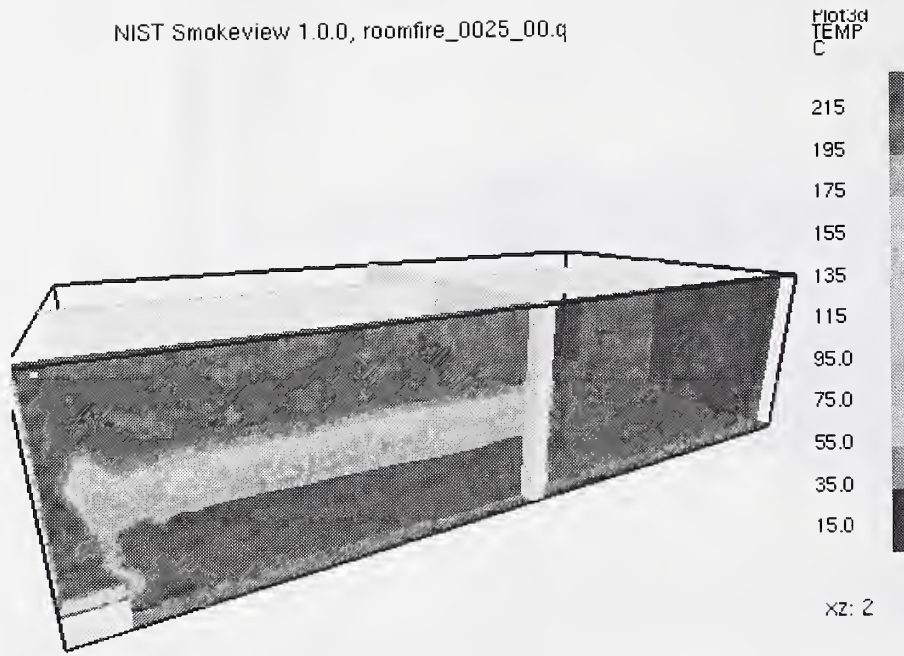
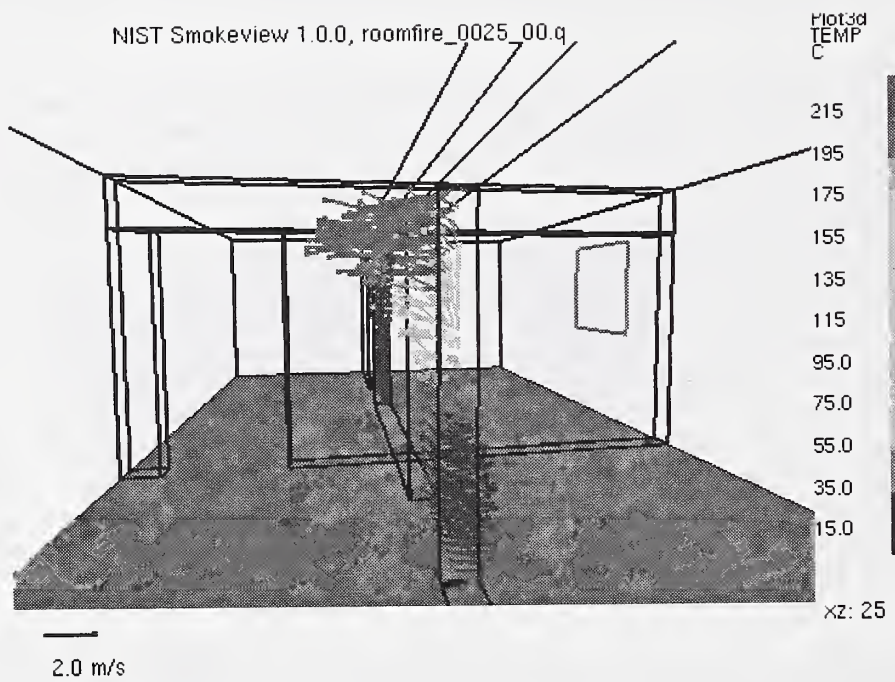
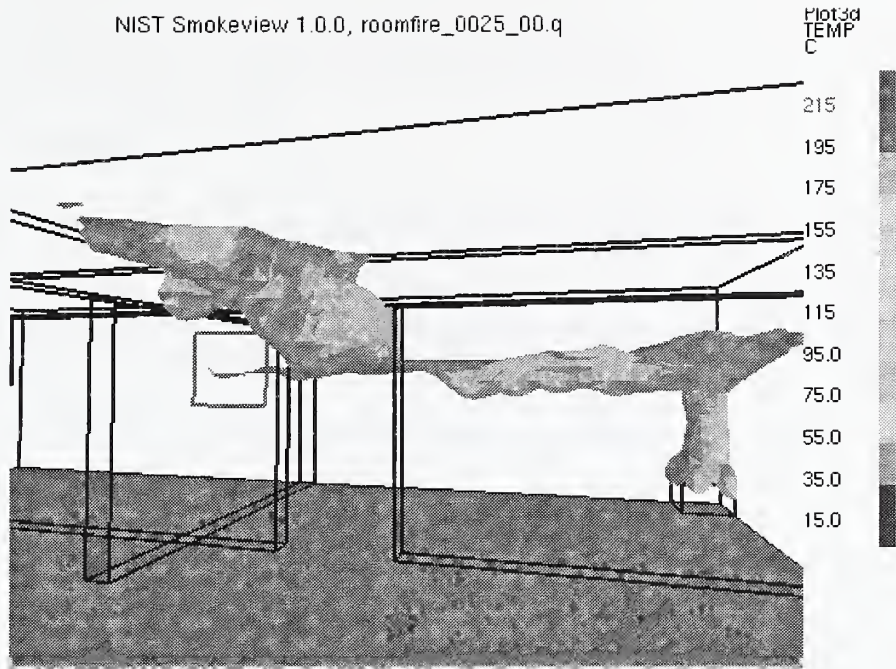

Figure 5: PLOT3D Contour Example
Figure 6: PLOT3D Vector Plot through a door
Figure 7: PLOT3D Iso-contour Example
**PLOT3D files** PLOT3D files store five data values at each grid cell. FDS stores temperature, three components of velocity (U, V, W) and heat release rate by default. Other quantities may be stored if desired. In addition the PLOT3D format allows one to specify internal blockages so that contour data need not be displayed where the physical domain is blocked off. PLOT3D[6] files store data in a standard format developed by NASA and used by many CFD programs for representing simulation results. An FDS simulation will typically create PLOT3D files at several times. PLOT3D data is visualized in three ways: as 2D contours, vector plots and iso-surfaces. 2D contours2 along either of the XZ, XY or YZ planes. In the default Smokeview view, the X and Z coordinate axes are parallel to the horizontal and vertical screen edges respectively while the Y coordinate axis occurs front to back “within” the screen. Figure 5 shows an example of a 2D PLOT3D contour. Vector plots may be viewed if one or more of the U,V and W velocity components are stored in the PLOT3D file. The vector length and direction show the direction and speed of fluid flow travel while the vector colors show the solution value. Figure 6 show vectors which indicate flow direction. 3D contours or iso-surfaces show where the solution attains one particular value. Figure 7 gives an example of an iso-surface. PLOT3D data are stored in files with extension .q .